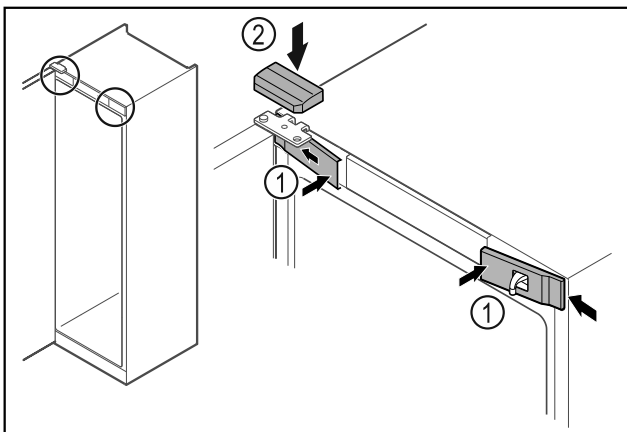

Fig. 42
- Hook in the front covers Fig. 42 (1) on the side and snap them into place.
- Snap on the top cover Fig. 42 (2) from above.